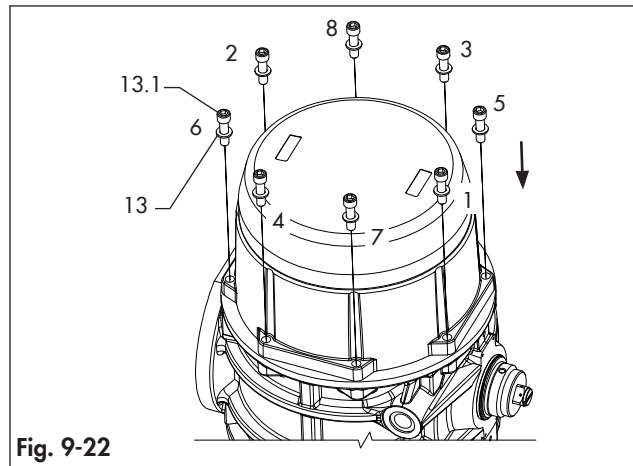

Fig. 9-22
- Fix the end cap (30) fastening partially the cap screws (13) 1 turn at a time following the sequence indicated in Fig 9-22.
- Observe the specified sequence shown in Fig. 9-22.
- Complete the fastening of the end cap screws (13) tightening 1 turn at a time for each screw in the sequence shown in Fig. 9-22.